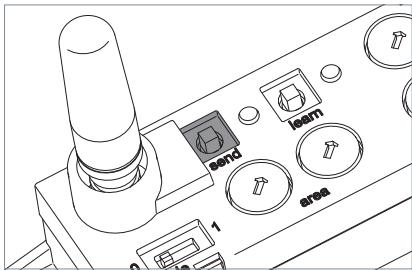

Fig. 20: "send" key.
- ▶ Press the "send" key, see Fig. 20.